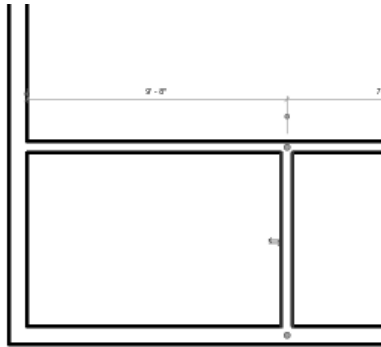
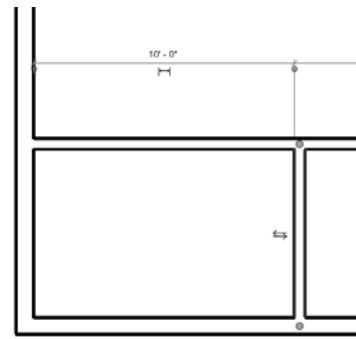

Figure 3-59 The square dot moved
Figure 3-60 The adjusted inner wall distance
- Edit the interior walls location to achieve clear internal distances, refer to Figures 3-59 and Figure 3-60.
2. Three blue dots define the extents of the dimensions. Click on the dot on the extreme left; the dot and dimension witness line moves to the interior face of the exterior wall, as shown in Figure 3-59.
4. Now, click on the temporary dimension, enter the value **10'** and then, press ENTER; the interior wall is moved to the desired distance 10'-0" from the interior face of the exterior wall, as shown in Figure 3-60.